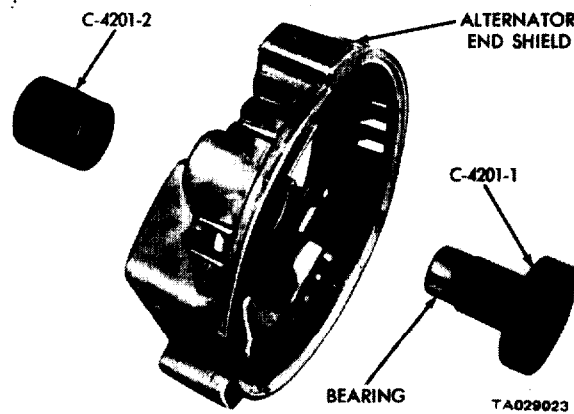

Figure 14-14. Installing Rectifier End Shield Bearing.
b. Position the rectifier end shield bearing on the base of tool C-4201. Place the alternator end shield on top of the bearing so that it is properly aligned. With the top part of tool C-4201 placed on the end shield, press it into place until it bottoms against the alternator (figure 14-14). New bearings are prelubricated; additional lubrication is not required.